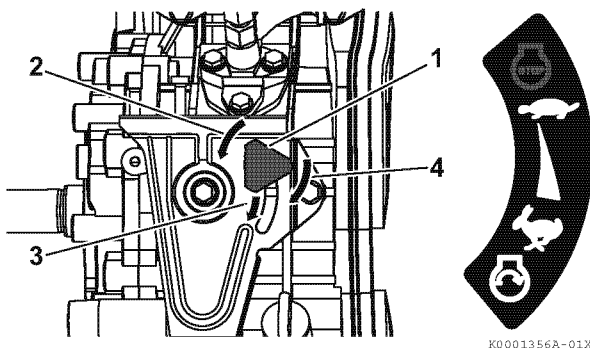

Figure 14
- If your engine speed control is similar to **Figure 14**:
- Turn the engine speed control knob (1, **Figure 14**) to the left (2, **Figure 14**).
- Slide the engine speed control knob to the START position (3, **Figure 14**).
- Turn the engine speed control knob to the right (4, **Figure 14**) to tighten it.